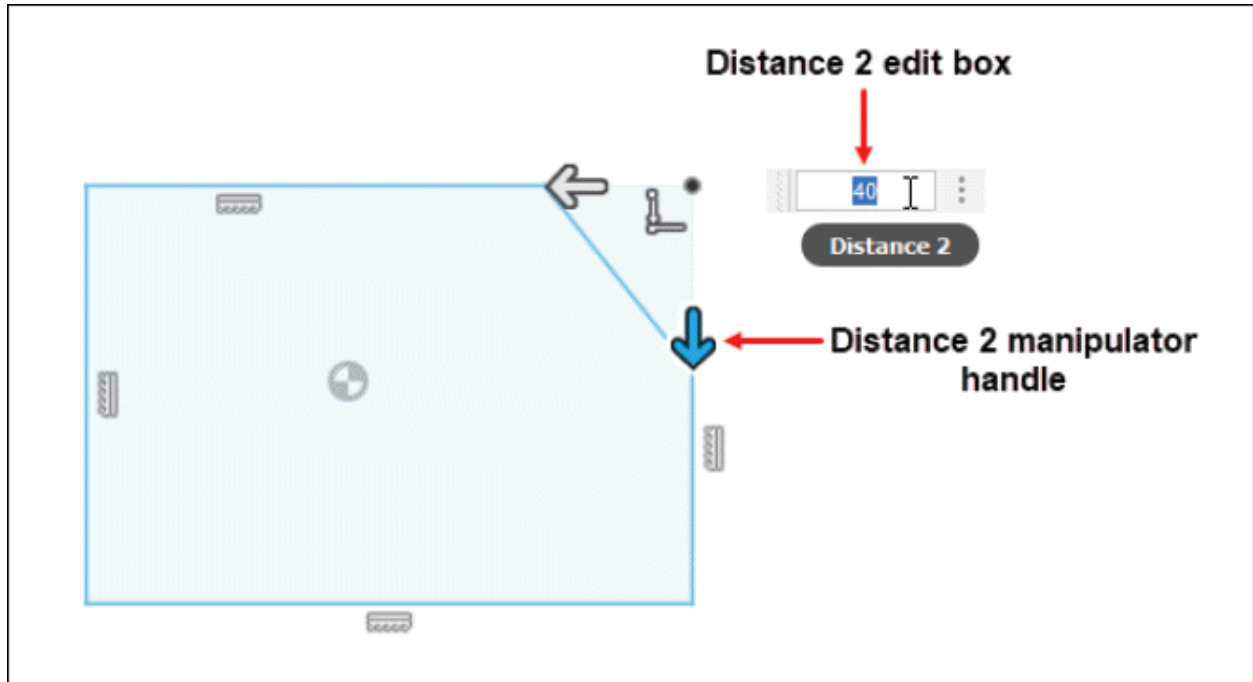

Figure-76. Specifying the second distance of chamfer
- Type desired value for the second distance in the **Distance 2** edit box or drag the highlighted distance manipulator handle to specify the second distance of chamfer; refer to Figure-76.